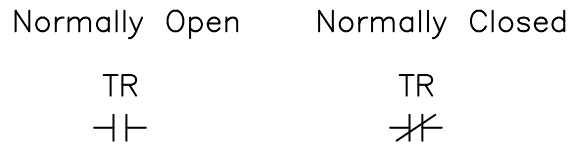
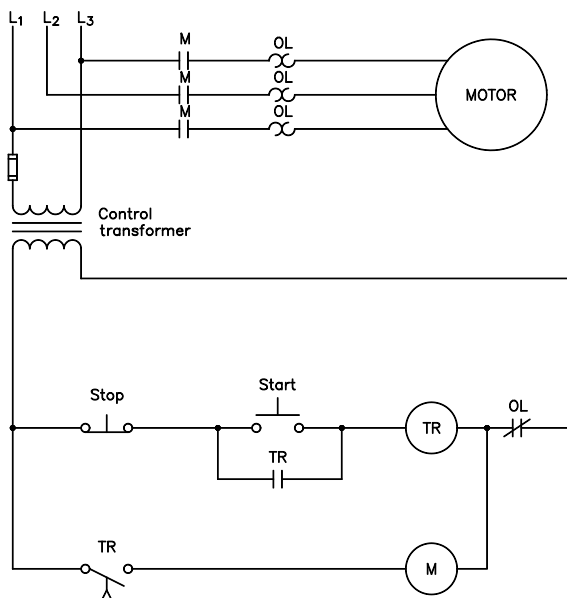

Figure 31-2 Instantaneous contact symbols.
Figure 31-3 The motor starts after the start button is pressed.
Instantaneous contacts are drawn in the same manner as standard relay contacts. Figure 31-2 illustrates a set of instantaneous contacts controlled by timer TR. The instantaneous contacts are often used as holding or sealing contacts in a control circuit. The control circuit shown in Figure 31-3 illustrates an on-delay timer used to delay the starting of a motor.
3. Refer to the circuit shown in Figure 31-3. If the timer has been set for a delay of 10 seconds, explain the operation of the circuit when the start button is pressed.
- In the circuit shown in Figure 31-3, is it necessary to hold the start button closed for a period of at least 10 seconds to ensure that the circuit will remain energized? Explain your answer.
- Assume that the timer in Figure 31-3 is set for a delay of 10 seconds. Now assume that the start button is pressed, and after a delay of 8 seconds the stop button is pressed. Will the motor start 2 seconds after the stop button is pressed?